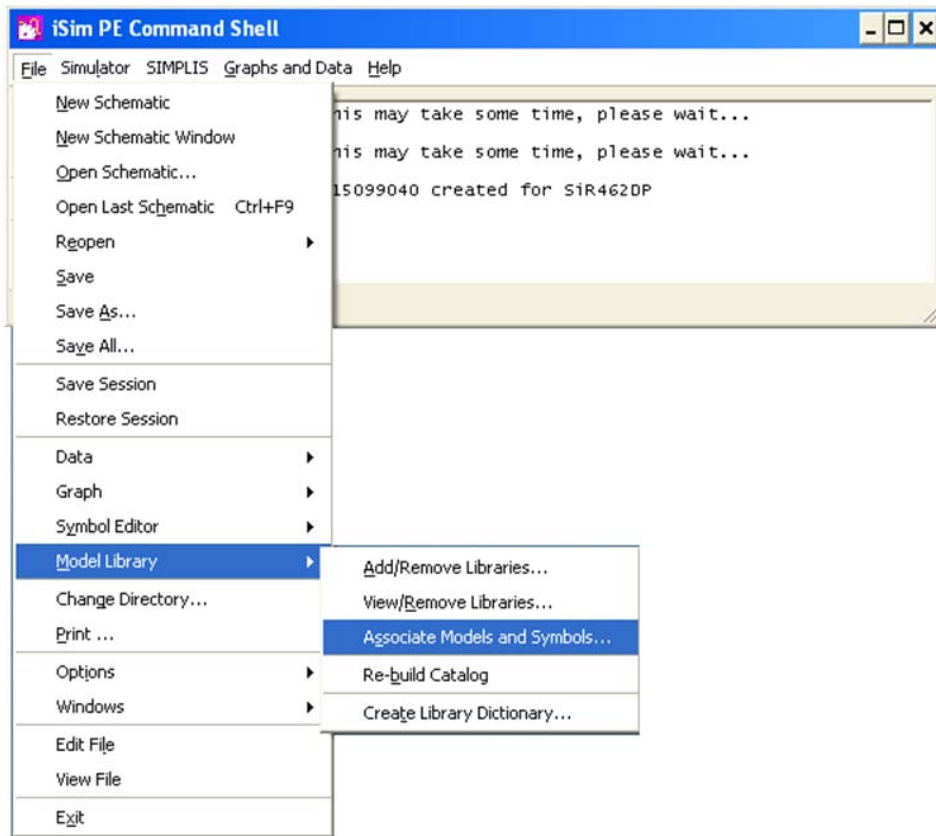
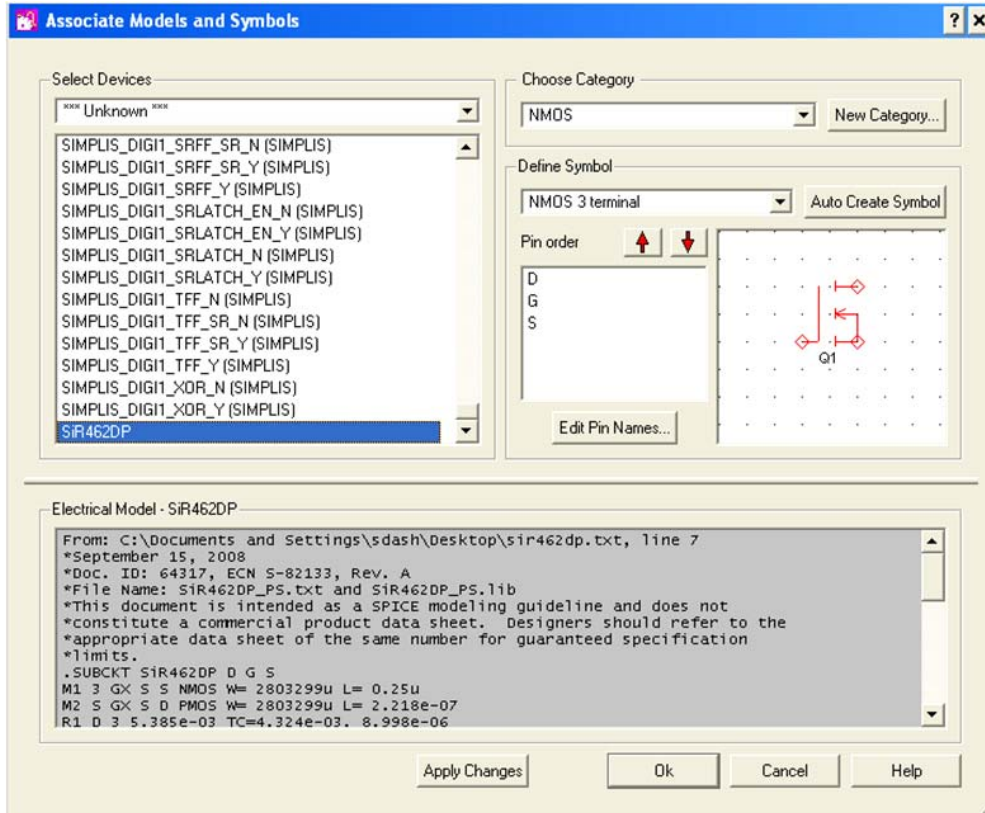

FIGURE 8. ASSOCIATE MODELS AND SYMBOLS STEP 1
FIGURE 9. ASSOCIATE MODELS AND SYMBOLS STEP 2
4. Now, a symbol needs to be associated with this model. Go to **File -> Model Library -> Associate Models and Symbols**, as shown in Figure 8. Choose the category (for example, NMOS) and symbol (such as, NMOS 3-terminal) corresponding to the model as shown in Figure 9. Click **Apply Changes** and then click **OK**.